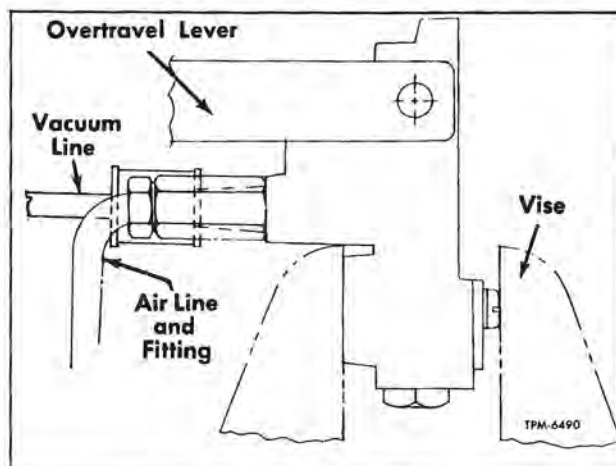

Figure 33—Valve Positioned For Time Delay Check
4. Place valve assembly vertically in holding vise (fig. 33).